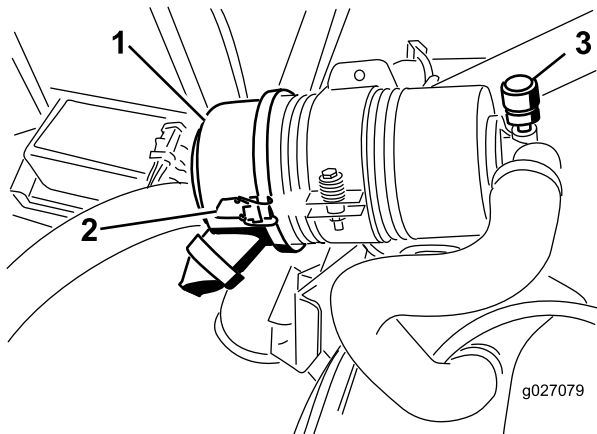

Figure 55
Service the air cleaner filter only when the service indicator (Figure 55) requires it. Changing the air filter before it is necessary only increases the chance of dirt entering the engine when you remove the filter.
1. Release the latches securing the air-cleaner cover to the air-cleaner body (Figure 55).